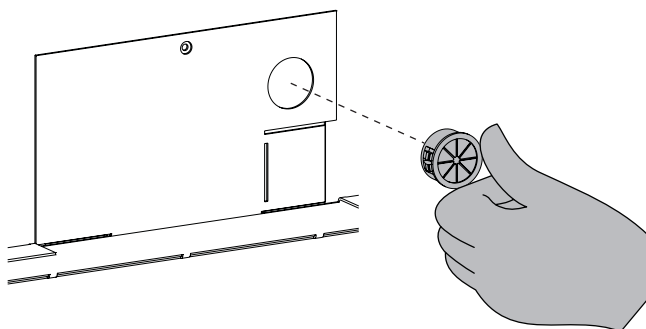

**Figure 31**
13. Install the wall-mounted control box within 6 feet to the left side or 4 feet from the right. **See Figure 31.**